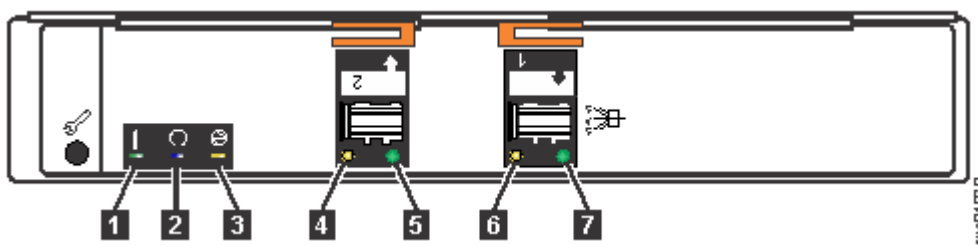

Figure 177. Expansion canister
An expansion canister provides SAS connectivity between the 5U expansion enclosure and control enclosure system. If either of the two expansion canisters has a failure, the other expansion canister assumes the full I/O load. Figure 177 on page 206 shows the features of an expansion enclosure.
3. Release the lower cable management arm to swing it out of the way, as described in Figure 177 on page 206.